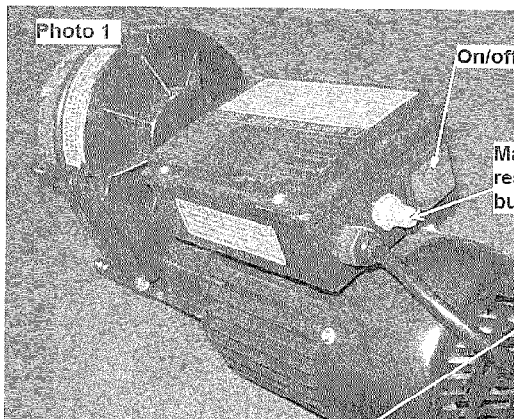

FIGURE 7
- Mixer motor is equipped with an on/off switch and manual reset motor protector. For location, see Figure 7.